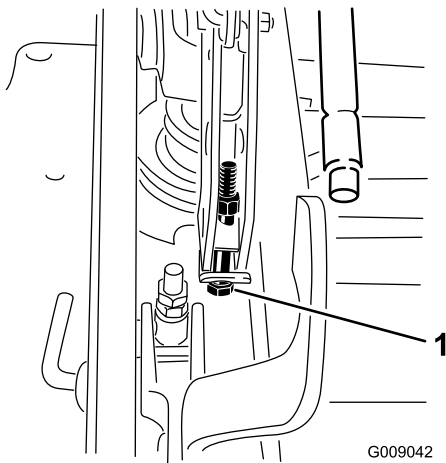

Figure 86
12. If the deck is too low, tighten the single point adjustment bolt by rotating it clockwise. If the deck is too high, loosen the single point adjustment bolt by rotating it counterclockwise (Figure 86).